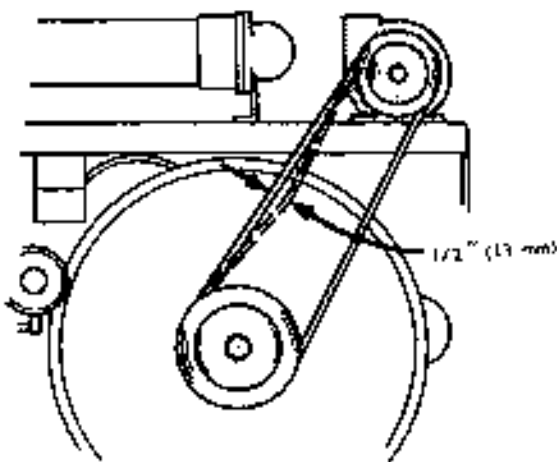

FIGURE 6-35. PUMP BELT TENSION
13. Mount centrifugal pump on bracket with the shaft pointing forward. Use hold-down plate furnished to secure pump (Figure 6-35).